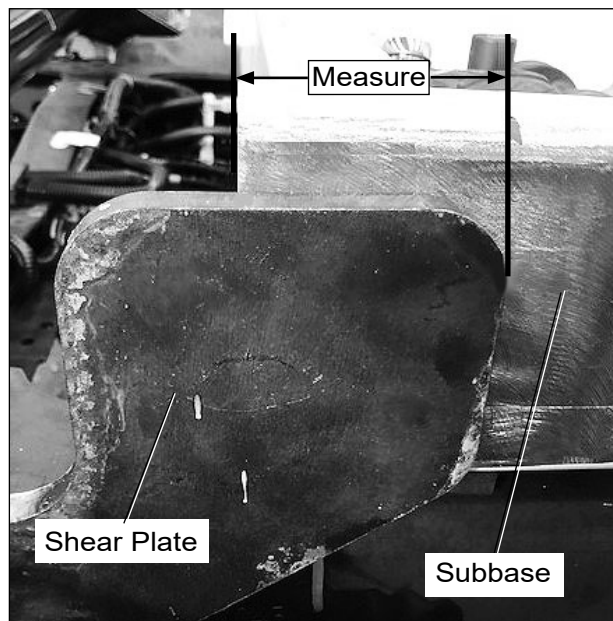

Figure 2 — Measuring Shear Plate Position
3. Measure the distance from the rear of the subbase to the front of the shear plate (refer to Figure 2) on both the curb side and street side of the chassis.